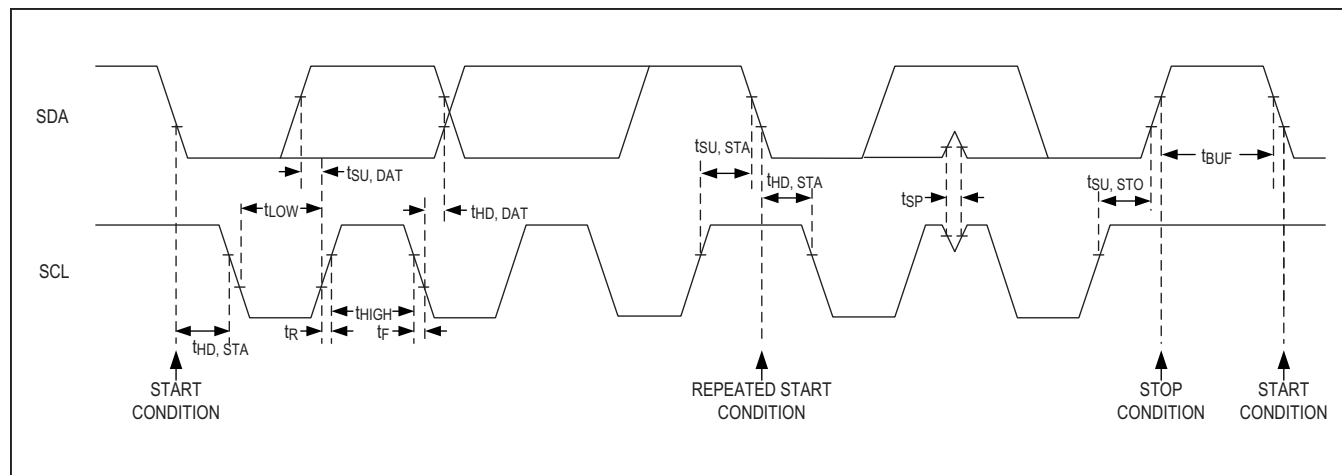

Figure 1. Detailed I²C Timing Diagram
Figure 1 shows the 2-wire interface timing diagram. The master generates SCL and initiates data transfer on the bus. The master device writes data to the MAX30112 by transmitting the proper slave address followed by the register address and then the data word. Each transmit sequence is framed by a START (S) or REPEATED START (Sr) condition and a STOP (P) condition. Each word transmitted to the MAX30112 is 8-bits long and is followed by an acknowledge clock pulse. A master reading data from the MAX30112 transmits the proper slave address followed by a series of nine SCL pulses. The MAX30112 transmits data on SDA in sync with the master-generated SCL pulses. The master acknowledges receipt of each byte of data. Each read sequence is framed by a START (S) or REPEATED START (Sr) condition, a not acknowledge, and a STOP (P) condition. SDA operates as both an input and an open-drain output. A pullup resistor is required on SDA. SCL operates only as an input. A pullup resistor is required on SCL if there are multiple masters on the bus, or if the single master has an open-drain SCL output. Series resistors in line with SDA and SCL are optional. Series resistors protect the digital inputs of the MAX30112 from high voltage spikes on the bus lines, and minimize crosstalk and undershoot of the bus signals.
The detailed timing diagram of various electrical characteristics is shown in Figure 1.